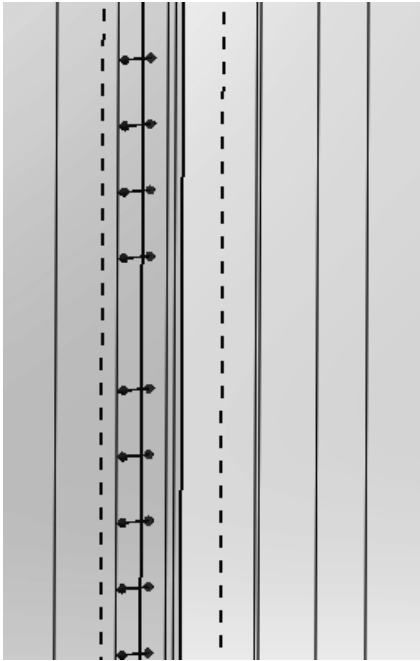

Figure 2.18b) Outlet static pressure boundary condition
18. Red arrows pointing in the flow direction appear indicating the inlet velocity boundary condition; see figure 2.17d). Right click in the graphics window and select **Zoom to Fit**. Right click again in the graphics window and select  **Rotate View** once again to rotate the part so that the inner right surface is visible in the graphics window. Right click and click on  **Select**. Right click on  **Boundary Conditions** in the **Flow Simulation analysis tree** and select **Insert Boundary Condition...** Right click on the outflow boundary surface and select **Select Other**. Select the Face corresponding to the outflow boundary. Click on the **Pressure Openings** button in the **Type** portion of the **Boundary Condition** window and select **Static Pressure**. Click OK to exit the window. If you zoom in on the outlet boundary you will see blue arrows indicating the static pressure boundary condition; see figure 2.18b).